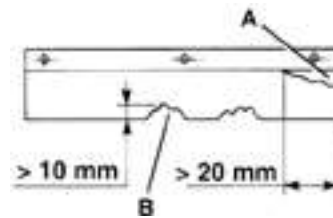
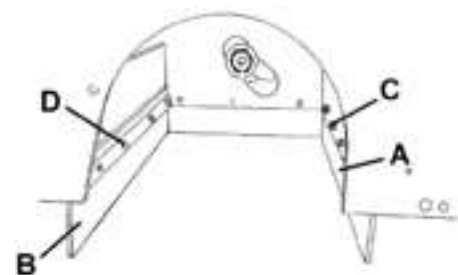

Figure12
Figure17
- 1) Unscrew the knobs (17 and 34) and remove both left (16) and right covers (33).
- 2) Check the side skirts (11 and 12) for integrity. Replace the skirts when they have cuts (A, fig. 12) larger than 0.79 in (20 mm) or cracks (B) larger than 0.39 in (10 mm) (for skirt replacement).
- 2) Check the front (13) and rear skirts (14) for integrity. Replace the skirts when they have cuts (A, fig. 12) larger than 0.79 in (20 mm) or cracks (B) larger than 0.39 in (10 mm) (for skirt replacement).
- The front skirt (A, fig. 17) slightly touches the floor (A, Fig. 14).
- The distance from the ground of the rear skirt (B, fig. 17) is within 0-0.12 in 0-3 mm (A, fig. 12).
- 4) If necessary, adjust the skirt height by using the slots on the screws (C and D, fig. 17).